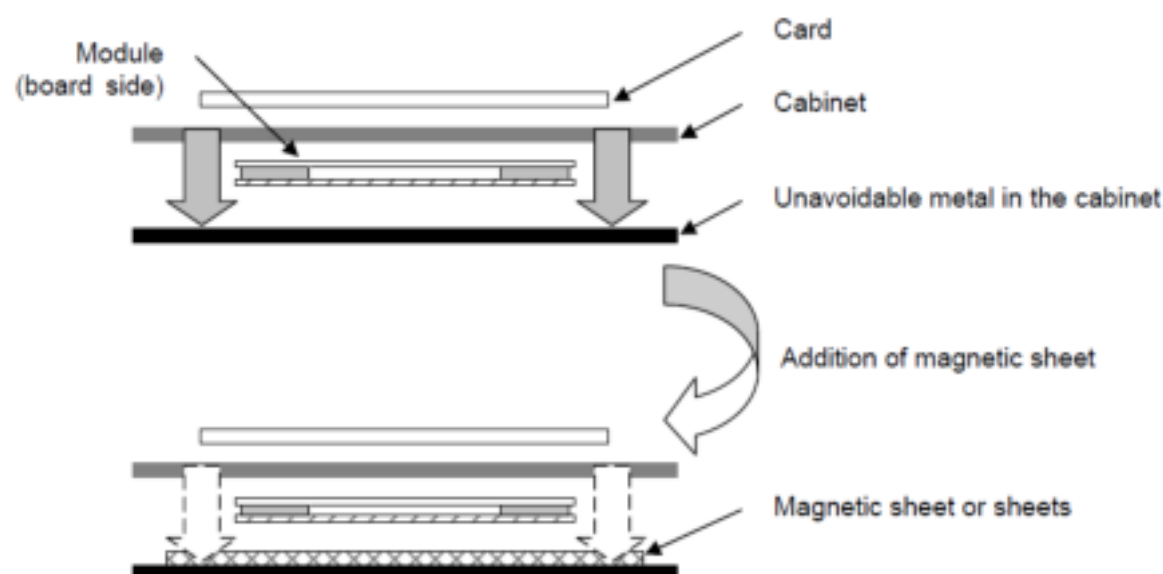

Figure A-2: Reducing the effects of metal
- If no performance improvement is achieved by the previous instructions, attempt to add at least one magnetic sheet (70 mm x 60 mm or larger) to the metal surface that faces the card, as shown in Figure A-2, and keep the module at least 3 mm (0.12 in.) away from any metal plate.